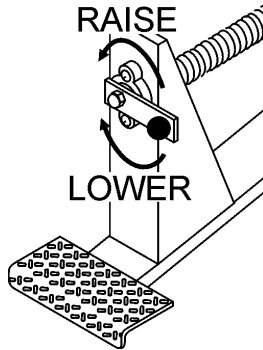

Figure 24. Raise/Lower Crank Handle
1. Using the **Raise/Lower Crank Handle**, located above the step pedal, turn the handle **CLOCKWISE** to **LOWER** the saw blade to the required depth (Figure 24). Turn the handle **COUNTERCLOCKWISE** to **RAISE** the saw blade to the required depth.